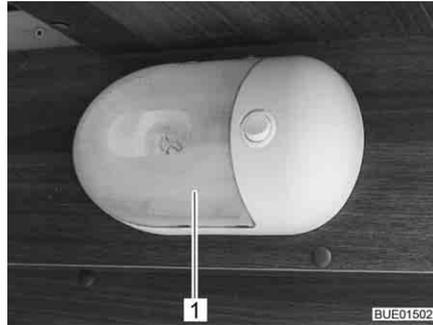

Fig. 304 Garage light
- Carefully push the transparent cover (Fig. 304,1) together from both sides, pull it lightly from the switch and pull it off forwards.